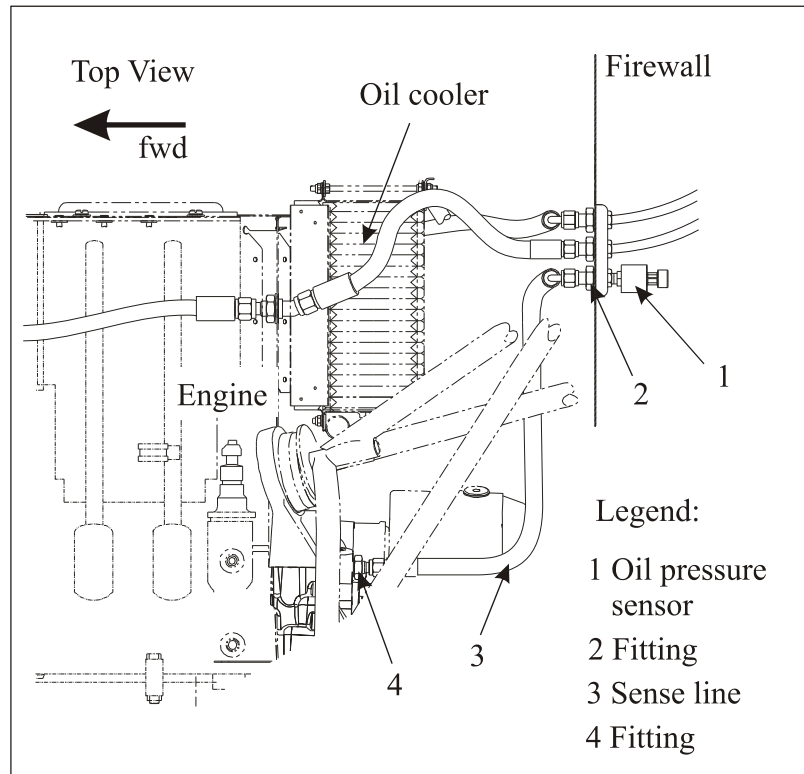

Figure 4 Oil Pressure Sensor & Wet Line
The oil pressure gauge is located in the rear instrument panel. The gauge receives its data electrically from a pressure sensor located on the aft side of the firewall (refer to figure 4). The pressure sensor (1) is connected to a bulkhead fitting (2) on the cold side of the firewall. A sense (wet) line (3) connects the bulkhead fitting to the reducer fitting (4) at the engine.
- 2 Disconnect the sense wet line at firewall bulkhead fitting and at engine fitting (refer to figure 4).